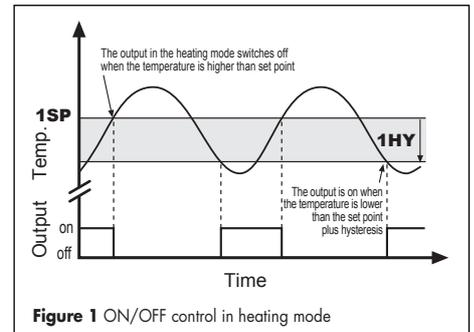
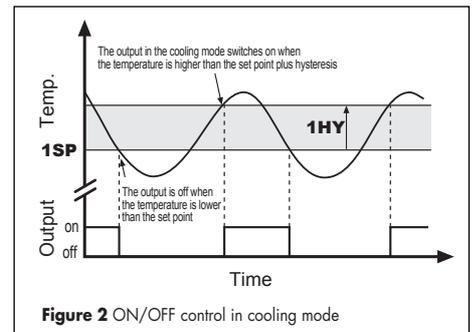

Figure 1 ON/OFF control in heating mode
Figure 2 ON/OFF control in cooling mode
4.2. ON/OFF CONTROL. In the ON/OFF mode the output is ON or OFF in relation to the input temperature, set point (**1SP**) and hysteresis value (**1HY**). The hysteresis indicates the amplitude of deviation of the temperature from the set point in order to reactivate the output. Increasing the hysteresis value decreases the switchovers of the output, while decreasing the hysteresis value gives finer control. For channel 1 to operate in the heating mode, assign a negative value (see Figure 1) to **1HY**; assign a positive value for control in the cooling mode (see Figure 2). With **1HY=0** the output is permanently cut out. After a switchover the output remains in the new state for a minimum time of **1CT** seconds irrespective of the temperature value.
5.4. ON/OFF CONTROL. In the ON/OFF mode the output is ON or OFF according to the input temperature, differential/set point (**2SP/2DF**) and the hysteresis value (**2HY**). The hysteresis indicates the amplitude of deviation of the temperature from the set point in order to reactivate the output. Increasing the hysteresis value decreases the switchover of the output, while decreasing the hysteresis value gives finer control. For channel 2 to operate in the heating mode, assign a negative value to **2HY** (see Figure 1); assign a positive value for control in the cooling mode (see Figure 2). With **2HY=0** the output is permanently cut out. After a changeover the output remains in the new state for a minimum time of **2CT** seconds irrespective of the temperature value.